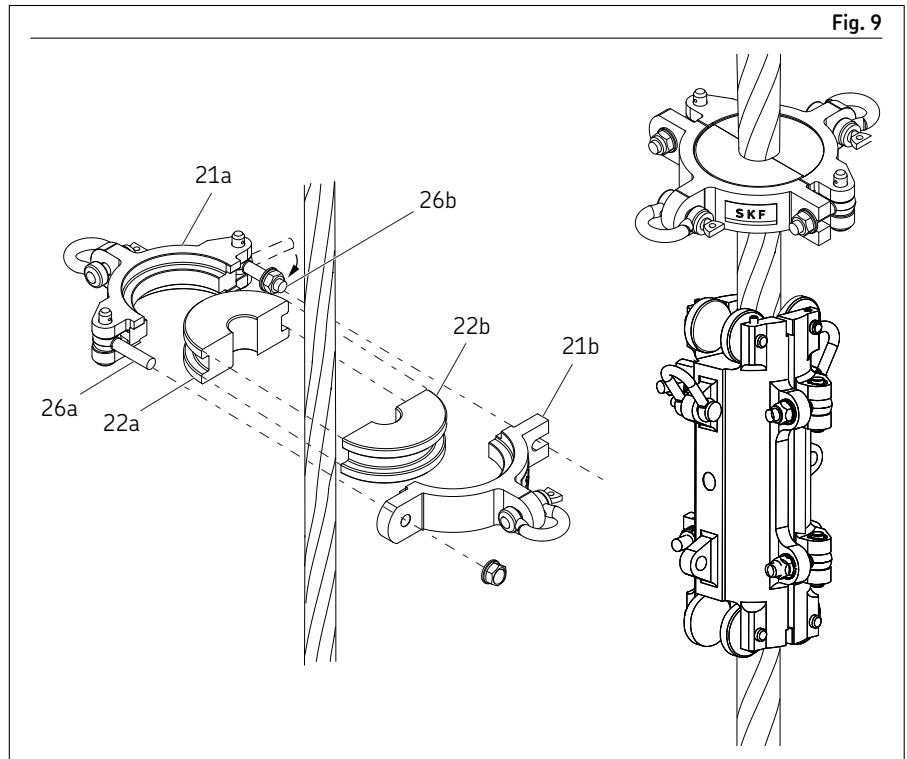

Fig. 9
- 2 Place one half of bushing (22a) inside one half of support (21a) and set flush against wire (→ Fig. 9).
- 6 Move screw (26b) to closed position and tighten to lock support (21) onto wire.